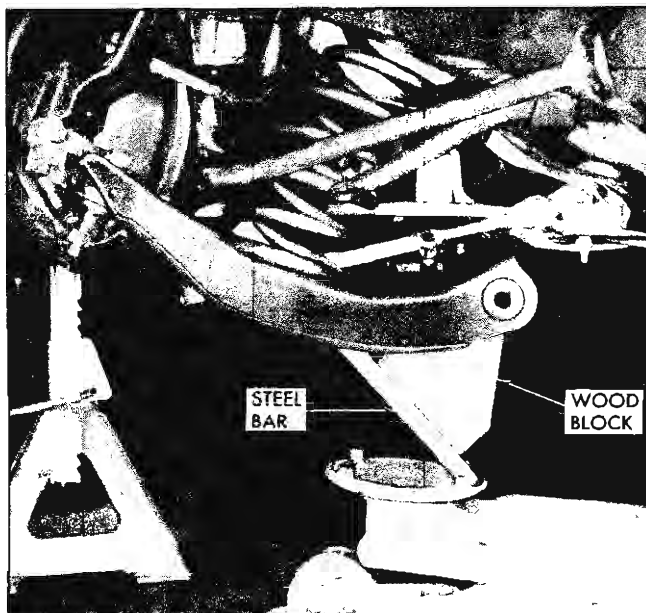

Fig. 21—Front Spring Removal—Chevrolet
4. Install a steel bar (fabricated as shown in Figure 20) through the shock absorber mounting hole in the lower control arm so that the notch seats over the bottom spring coil and the bar extends inboard and under the inner bushing. Fit a 5" wood block (See Figure 20) between the bar and the bushing as shown in Figure 21.
3. Install the steel bar and wood block as shown in Figure 21 and lift the control arm up until the inner pivot cam bolt can be installed.